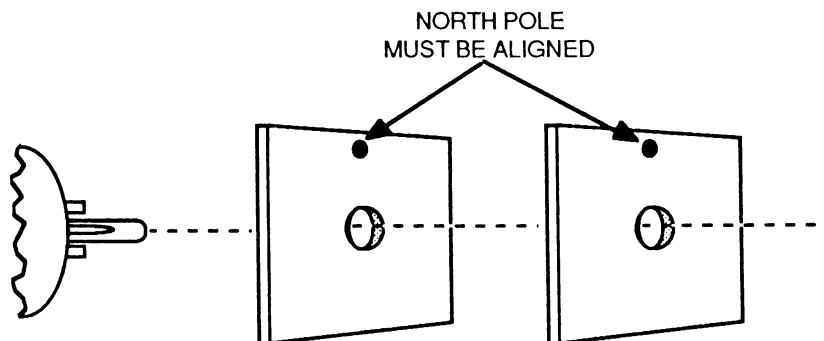

FIGURE 10
4. If the desired raster cannot be obtained, add a second magnet to the same pin. Both magnets must be aligned as in Figure 10, then rotated simultaneously.